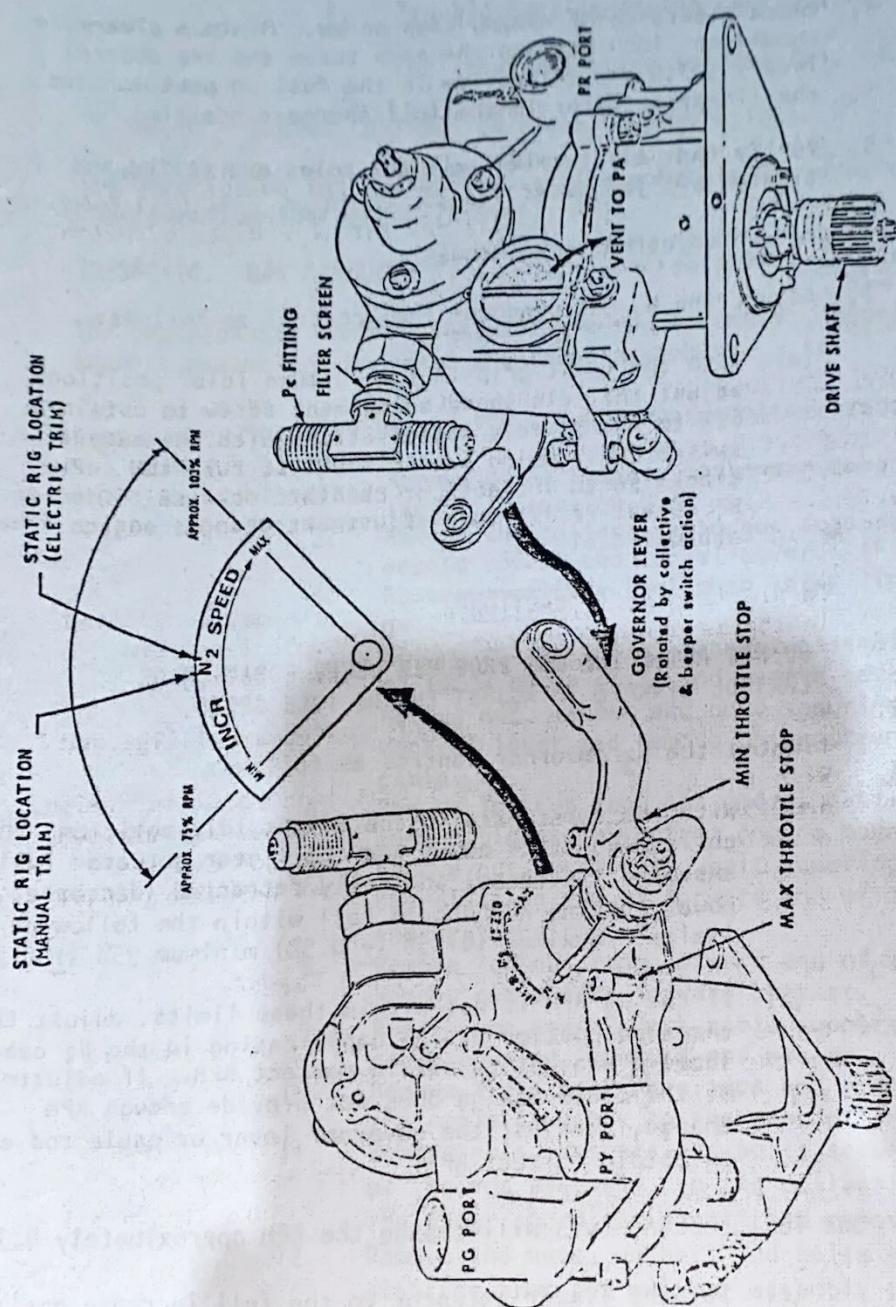

Figure 75-560-6. Bendix Power Turbine Governor - Model 250-C20/C20B Engine.
2. Position the power turbine governor pointer midway between the N and the 2 of the "Increase N_2 speed" designation beneath the pointer. (Figure 75-560-6.)